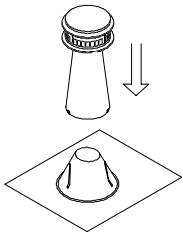

Fig 15
1. **Description.** The **Combination Top**, provides an easily installed, safe and efficient B-Vent **Top** and **Flashing**, as one lightweight unit. The two basic components and the assembled unit are shown in Figure 15. The **Combination Top** is designed to accommodate roof pitches from flat to 6/12, and is available for 3" through 6" diameter B-Vent pipe.